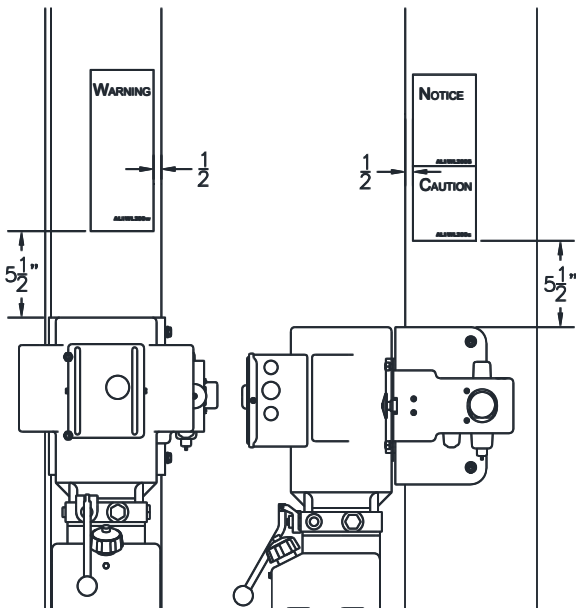

Fig 29 – Warning & Caution Decal
- 83) Place the Warning Decal, Notice Decal, and Caution Decal as shown in **Fig 29**.